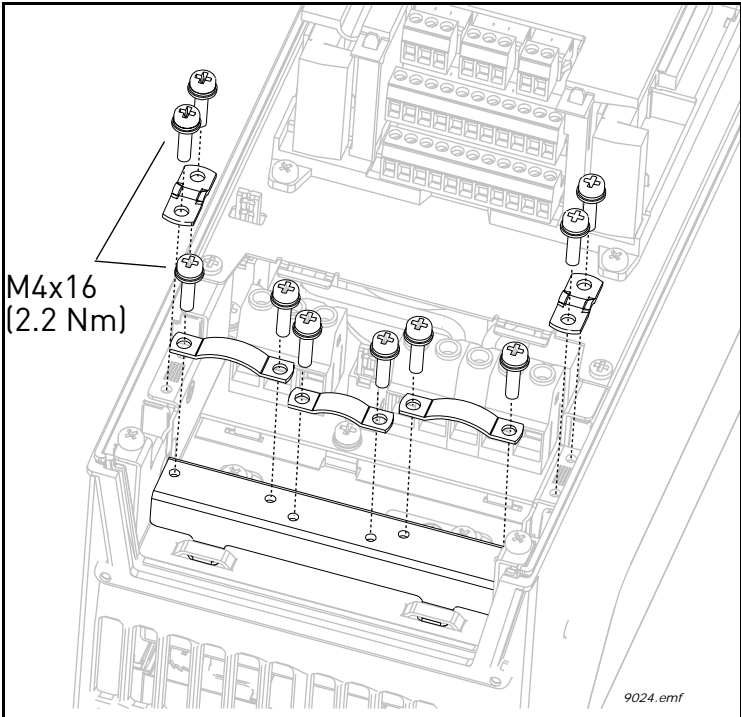
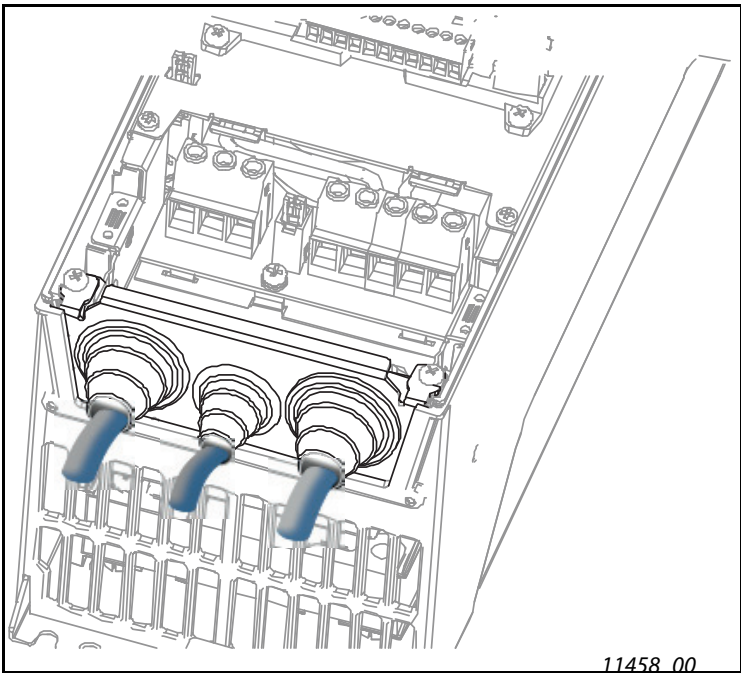

Figure 22.
Figure 23.
**6** Detach the cable clamps and the grounding clamps (Figure 22) and place the cable entry plate with the cables in the groove on the drive frame (Figure 23).